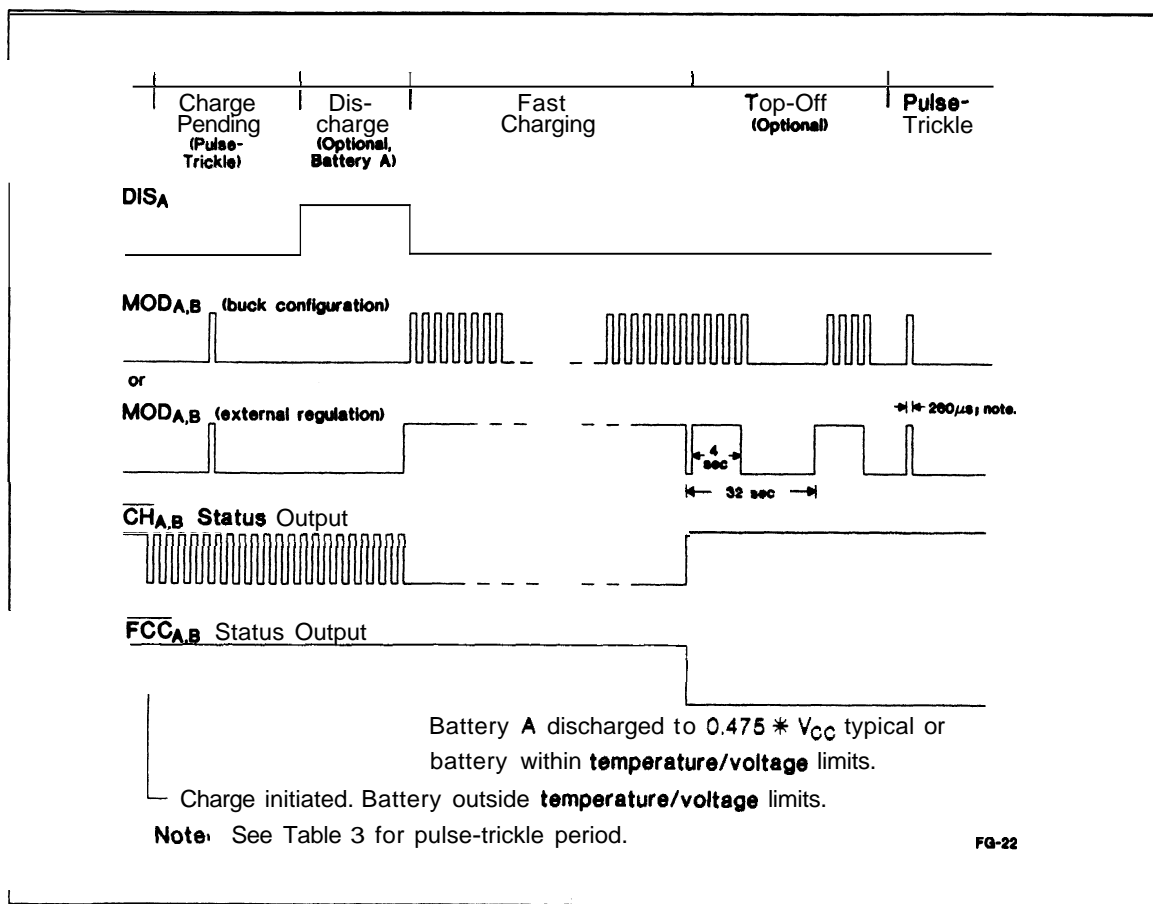

Figure 1. Example Charging Action Events
**SNSA,B** controls the switching of **MODA,B** based on an external sense resistor network. This provides the reference potentials for both the **TSA,B** and **BATA,B** pins. If **SNSA,B** is connected to **VSS**, then **MODA,B** switches high at the beginning of charge, and low at the end of charge. See Figure 1 and Table 1 for details.
Open-drain output indicating charging status. See Figure 1 and Table 2 for details.
Open-drain output indicating fast charge complete. See Figure 1 and Table 2 for details.
**MODA,B** is a push-pull output that is used to control the charging current to the battery. **MODA,B** switches high to enable charging current to flow and low to inhibit charging current flow. See Figure 1 and Table 1 for details.
Figure 1 illustrates charge control and display status during a bq2005 charge cycle. Table 1 outlines the various bq2005 operational states and their associated conditions, which are described in detail in the following sections.